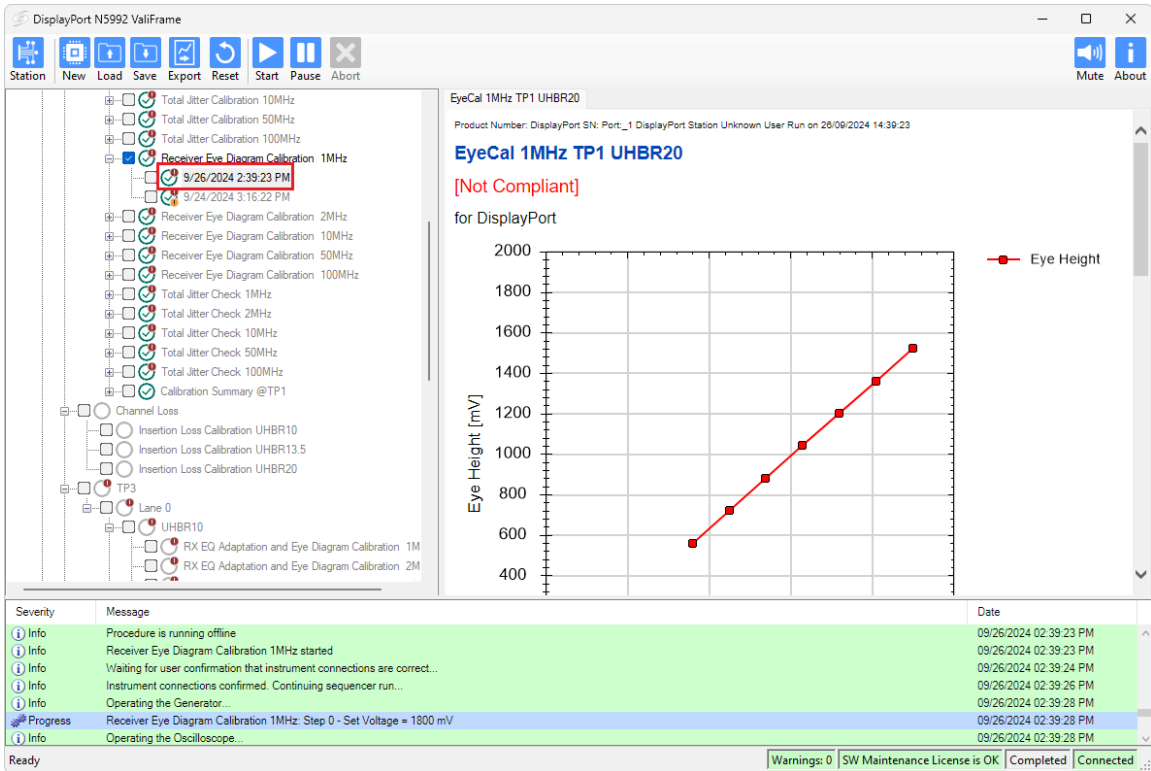

Figure 5-20 Displaying a particular set of results
- Left-click the timestamp of the results you want to see. The results will be displayed in the right-hand pane of the main window (Figure 5-20).